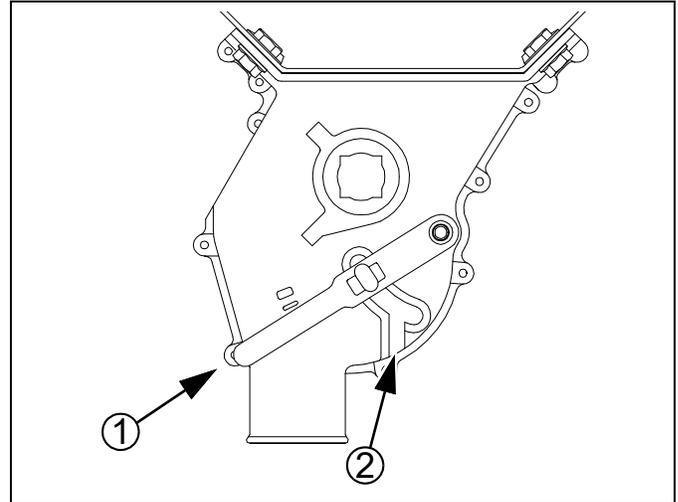

Figure 62
Refer to **Figure 62**, which depicts the seed cup door handle ① in a normal operating position.
1. Set the Seed Rate Handle to zero (0) for the side of the drill to be cleaned out. This moves the seed cup sprockets out of the seed path.
3. At the seed cup for that row, pull the door handle ① out of the operating detent range, and swing it down to position ②.